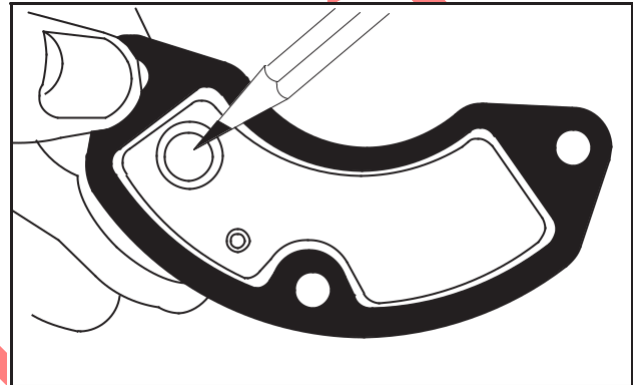

Fig. 8 – Checking Breather
2. Check to see that reed valve is not deformed, Fig. 8.